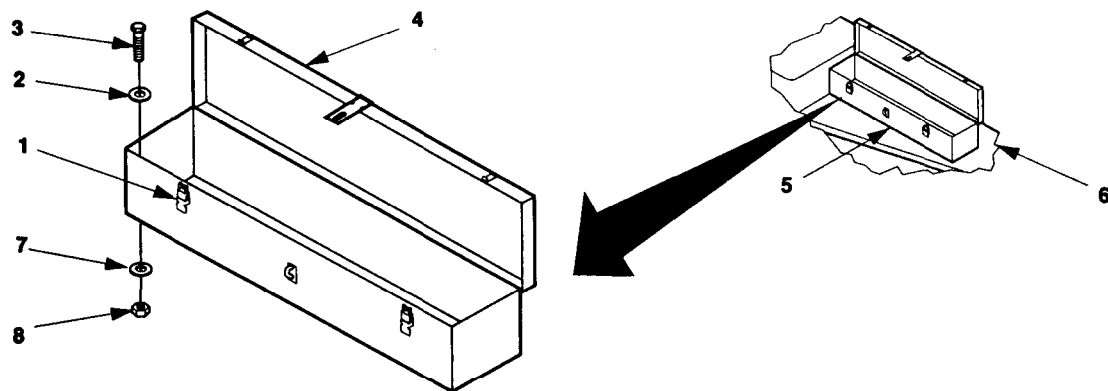

Figure 4-17. Accessory Box Replacement.
1. Release clamping catches (1, figure 4-17) and open accessory box cover (4).
2. Remove any stored accessories from accessory box (5).
3. Remove five self-locking nuts (8), flat washers (2 and 7), and bolts (3) that secure accessory box (5) to trailer chassis (6).
4. Lift accessory box (5) off trailer chassis (6).